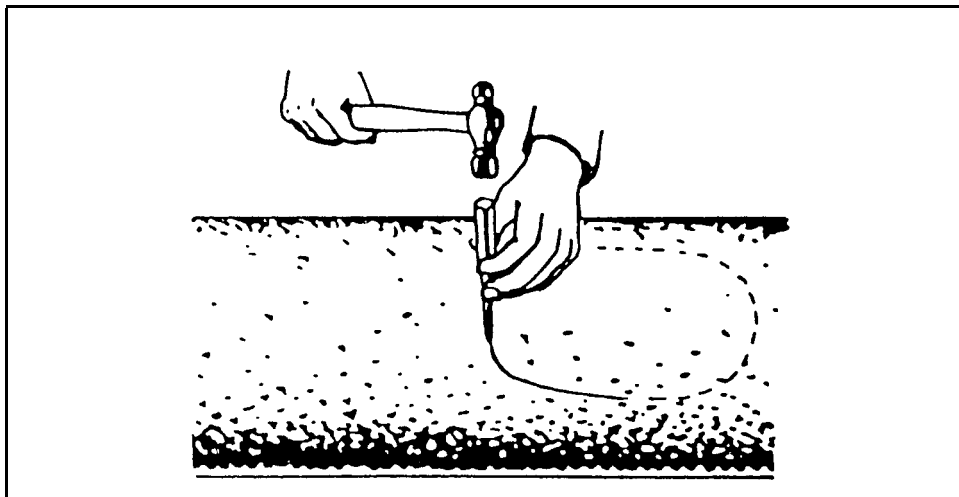

Figure 1-6. Cutting a Hole in the Main Sewer
Step 3. Make the cut on this line with a small, cold chisel and an 8-ounce ball peen hammer, as shown in *Figure 1-6*. Use light blows to prevent damage to the main sewer.